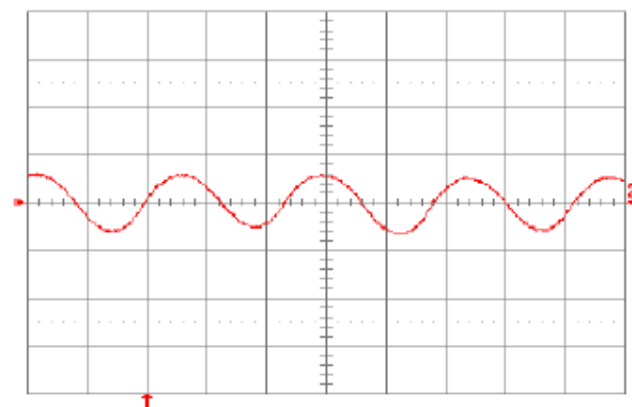

**Fig. 5.0V.14:** Test Setup for measuring input reflected ripple currents,  $i_c$  and  $i_s$ .
**Fig. 5.0V.13:** Output voltage ripple (20 mV/div.) at full rated load current into a resistive load with  $C_o = 10 \mu\text{F}$  tantalum +  $1 \mu\text{F}$  ceramic and  $V_{in} = 48\text{V}$ . Time scale:  $1 \mu\text{s}/\text{div}$ .